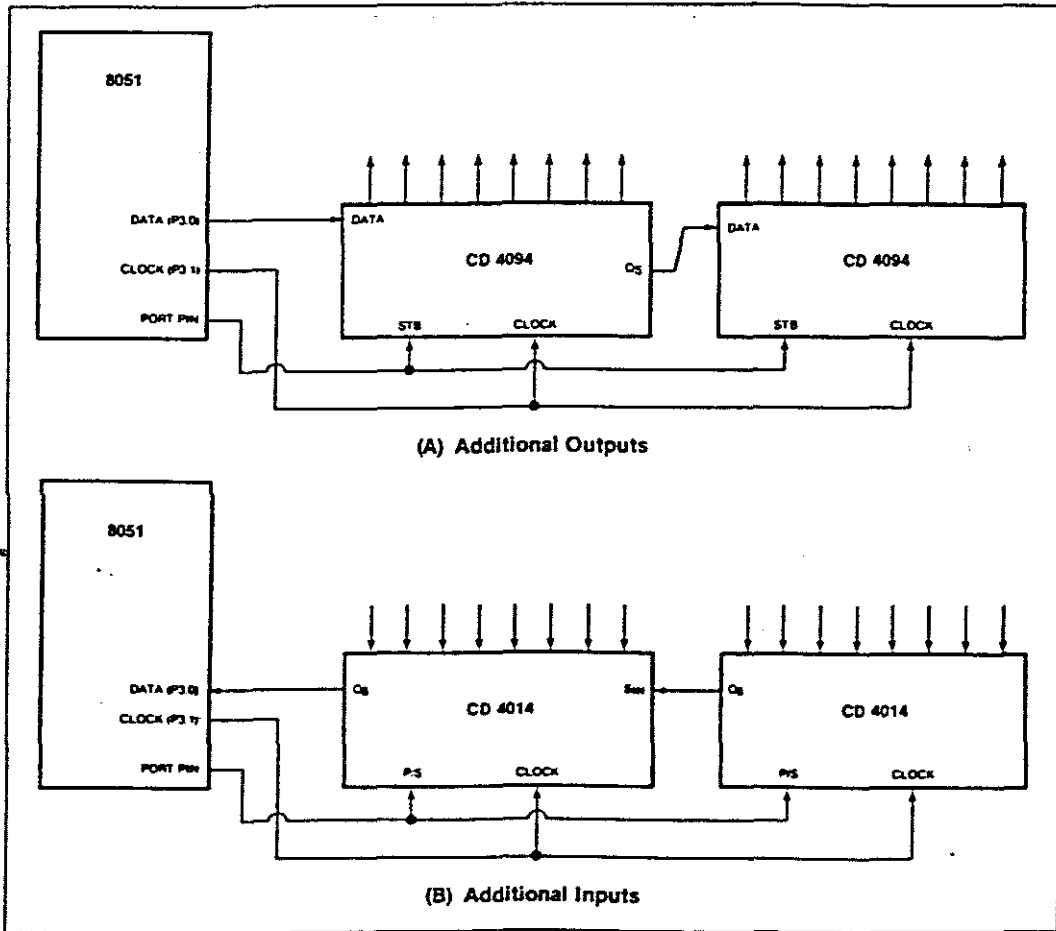

Figure 6-11. Mode 0 Applications
**Mode 0 Applications:** Mode 0 was intended primarily for I/O expansion using CMOS or TTL shift registers, as shown in Figure 6-11.